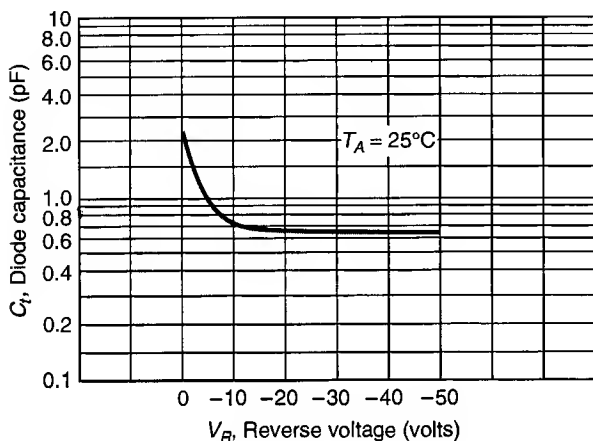

FIGURE 5.21 MPN3700 diode capacitance curve. (Copyright of Semiconductor Component Industries, LLC. Used by permission.)
The capacitance of a reverse-biased PIN diode is relatively constant over a wide range of reverse voltages. For example, the diode capacitance curve for the MPN300 PIN diode is shown in Figure 5.21. Note that the diode capacitance remains at approximately
0.65 pF over the V_R range of -30 to -50 V. Over the V_R range of 0 to -30 V, the component has a capacitance curve similar to that of a varactor. The capacitance curve in Figure 5.21 is typical for PIN diodes.